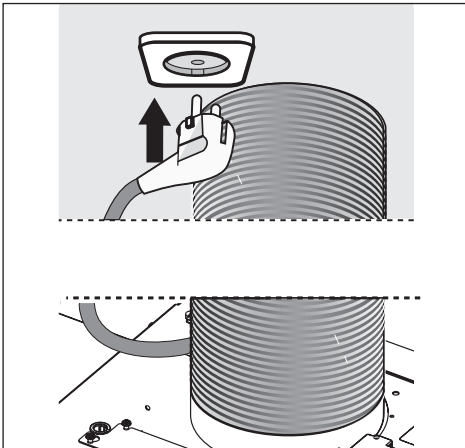

Fig.12
- Perform the electrical connection (fig.12).